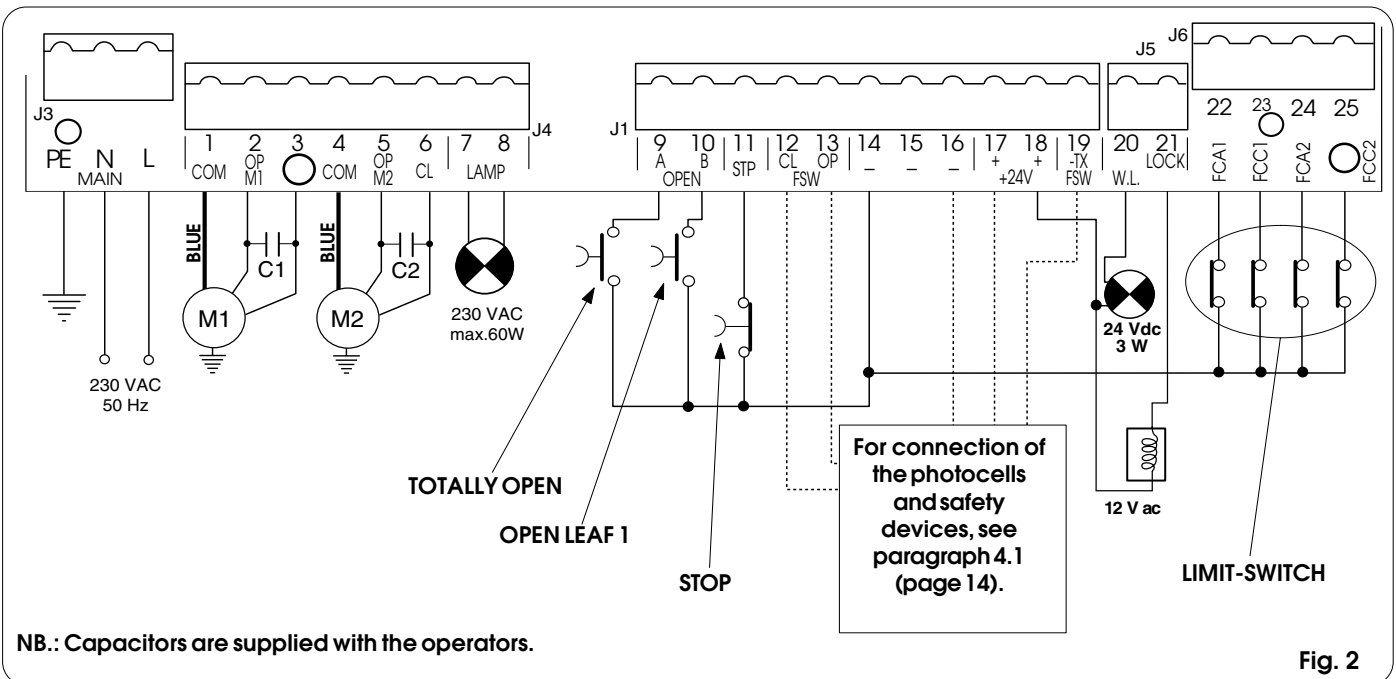

Fig. 2
- Connect the earth cable to the appropriate terminal on the J3 connector of the equipment (see fig.2).
4.2. Terminal board J3 - Power supply (fig. 2)
4.3. Terminal board J4 - Motors and flashing lamp (fig. 2)
4.4. Terminal board J1 - Accessories (fig. 2)
4.5. Terminal board J5 - Indicator-light and Electric lock (fig.2)
4.7. Terminalboard J6 - Limit-switches and/or Gatecoder (fig.2)